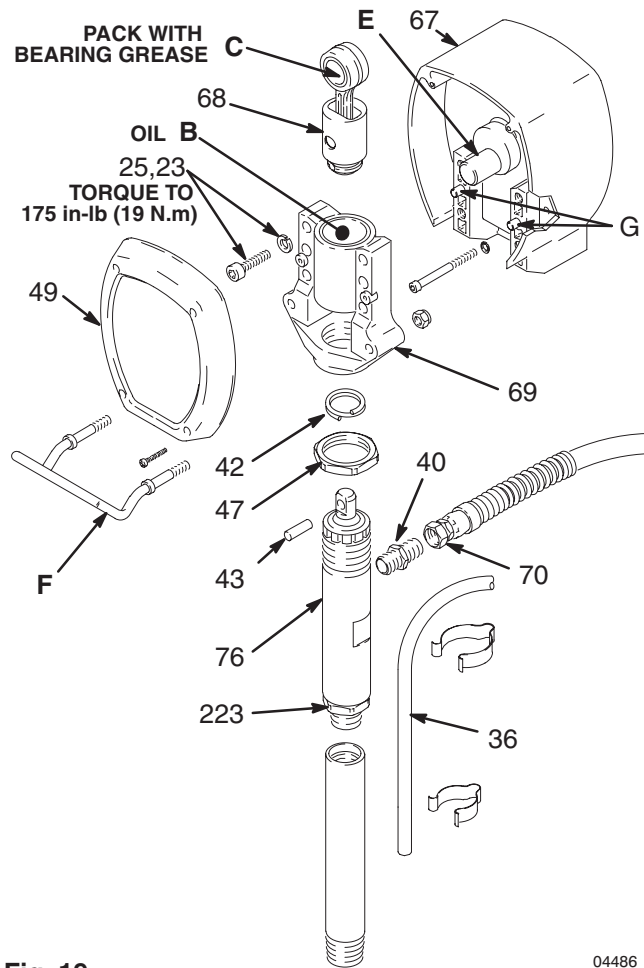

Fig. 19
Bearing Housing and Connecting Rod Replacement (Fig. 19)
14. Install the remaining parts. See Fig. 19.